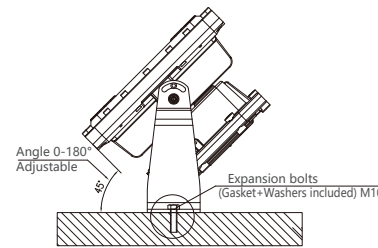

Fig. 3
- The luminaire can be adjusted up and down by 45° on wall/floor position only. (Figure 3)